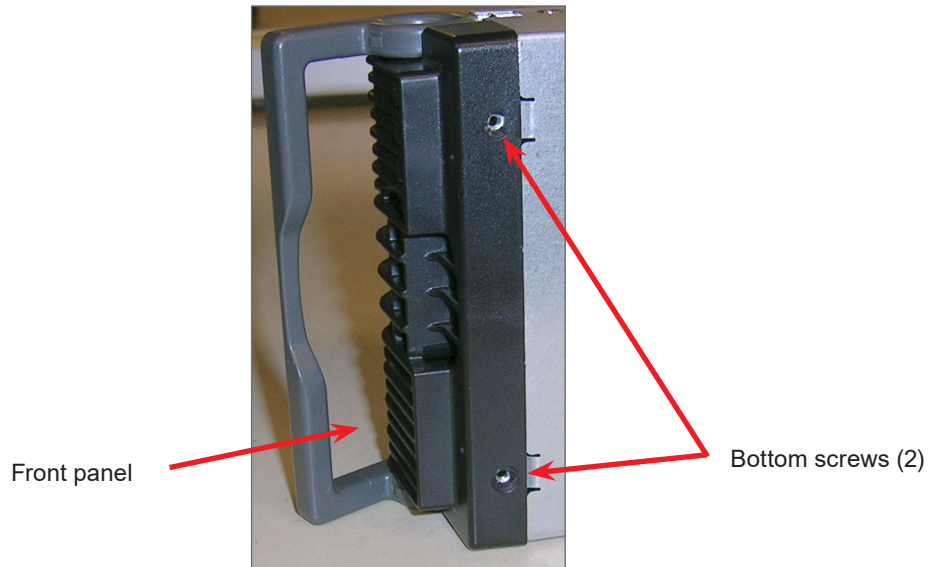

Figure 15 — Rectifier Bottom View
2. Remove the two bottom screws that secure the front panel to the module chassis (Figure 15).
10. Secure the front cover by hand tightening the bottom screws, see Figure 15.